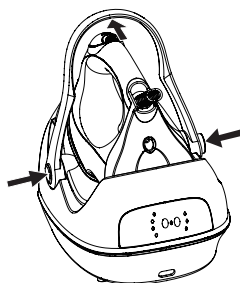

Fig.1
2. Press handle button to lay handle down. (Fig.1) (Note: When handle lift up, the unit is shut off, it will be ON when handle is laid down.)